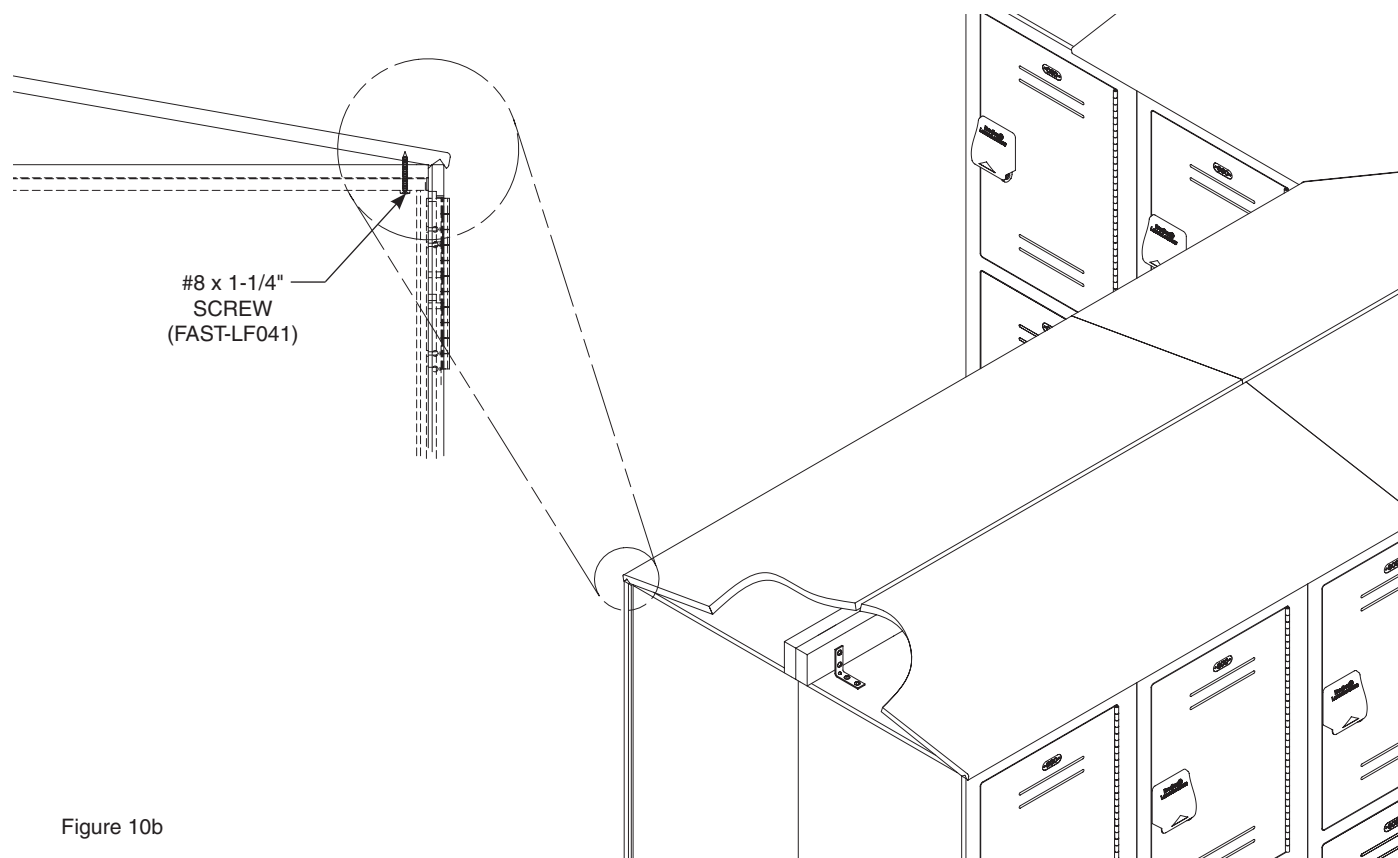

Figure 10b
5. Position the slope top on top of the lockers as shown in Figure 10b on page 15, fitting the slope top groove over the edge of the locker.
6. Hold the slope top down tight against the top of the locker and secure with the #8 x 1-1/4" screws provided (see Figure 10b). Do not overtighten the screws.